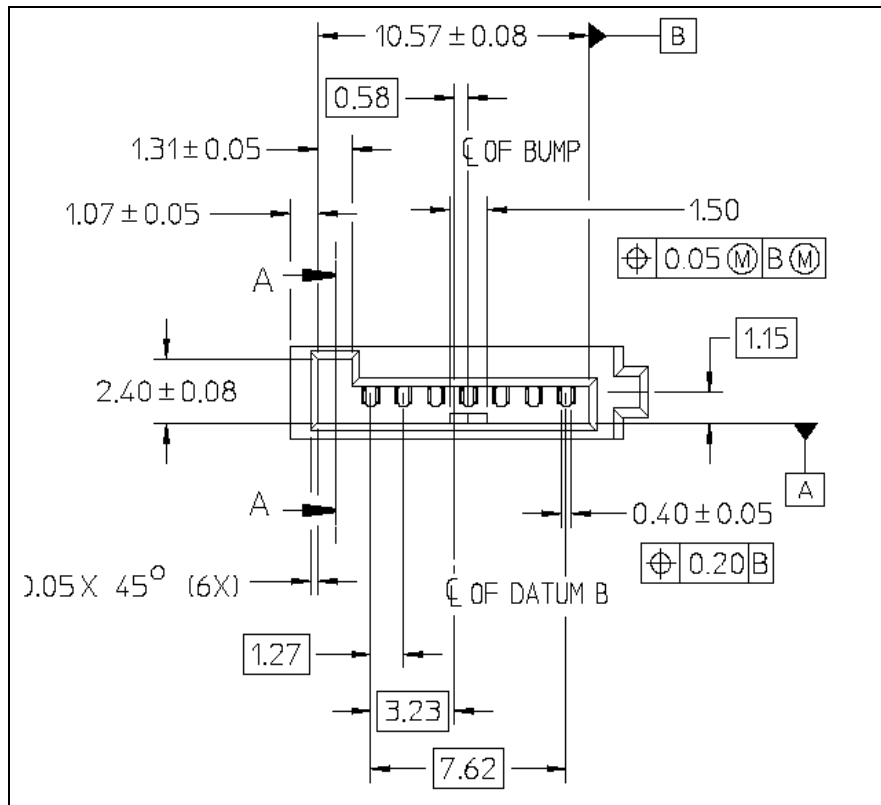

Figure 30 – Front View
2.2 Figure 30 – Cable receptacle connector interface dimensions